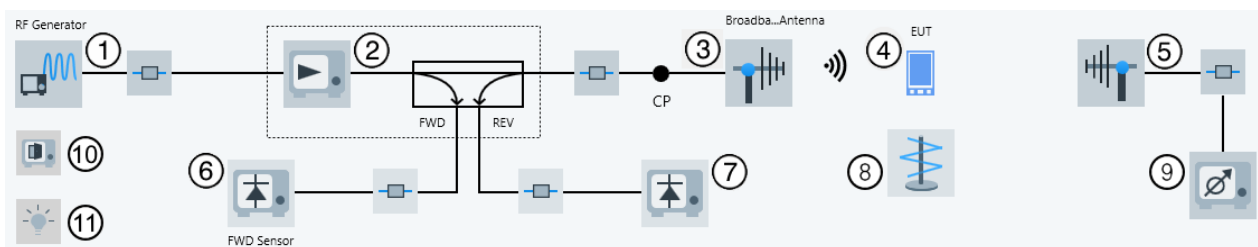

Figure 4-156: EMS hardware setup diagram (radiated) for a Reverberation Chamber in EUT Test View
- The "EUT Test View" (see Figure 4-156)